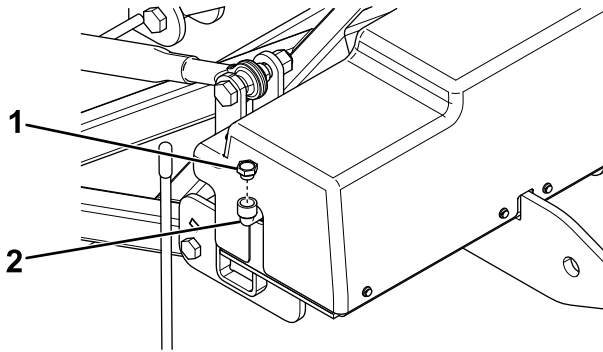

Figure 28
2. Clean the area around the fill cap (Figure 28).
3. Remove the fill cap from the hydraulic reservoir (Figure 28).
4. Slowly fill the reservoir with BOSS high-performance hydraulic fluid to the bottom of the fill elbow (Figure 28).